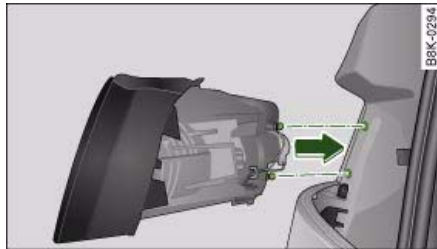

Fig. 276 Installing rear light
- Insert the rear light into the rear light carrier ⇒ fig. 276.